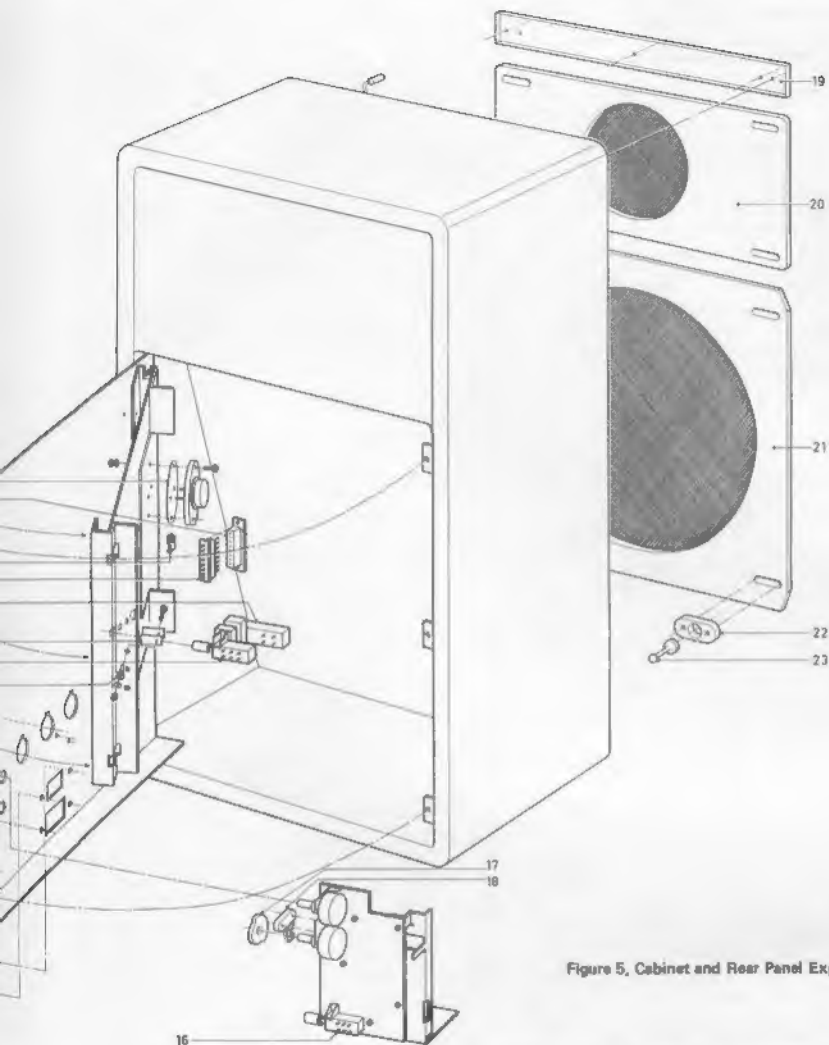

Figure 5, Cabinet and Rear Panel Exploded View
Chassis Access (Refer to Figure 5)
1. Remove the five screws securing the rear panel to the speaker enclosure. These screws are designated by an "O" on the rear panel and an "A" in Figure 5.
3. To completely remove the rear panel from the speaker enclosure, disconnect Plug (4) from Socket (2) and lift the rear panel up and out of the hinge brackets.
4. To reassemble, reverse the preceding steps, making certain Plug (4) is inserted properly into Socket (2). This is accomplished by placing the referenced end of the plug adjacent to the referenced end of the socket.
LED Access (Refer to Figure 5)
Main PC Board Access (Refer to Figure 5)
CABINET REPLACEMENT PARTS LIST (Refer to Figure 5)